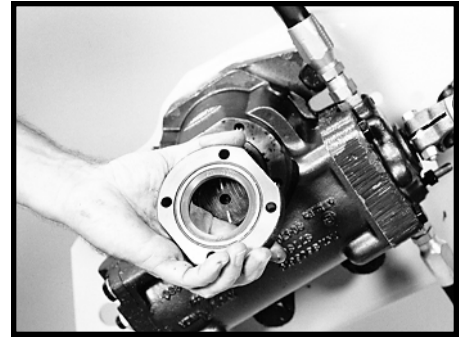

Figure 11
1.7 Install the two-piece sector shaft seal (23), so that the words "oil side" are visible after seal is in place. SEE FIGURE 11.